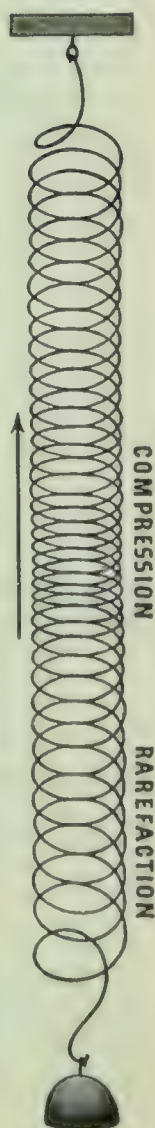

Fig. 430
*Experiment 95. HOW DO SOUND WAVES MOVE?* Get the spring out of a window-shade roller and fasten one end of it to a support (Figure 430). Fasten a weight to the other end of the spring. Near the lower end press together several coils of the spring; then let go of them quickly. Watch what happens along the entire spring. Repeat the experiment several times. Try to explain what happens.
The places where the air molecules are pressed together are known as *condensations* or *compressions*, and the places where they are spread farther apart are called *rarefactions* (Figure 430). A complete sound wave is made up of one rarefaction and one condensation. Study Figure 431 to help you trace a series of sound waves from their source to your ears. In a sound wave the molecules of air move only a little way. They move back and forth for a tiny distance along the line in which the sound waves are travelling. In liquids and in solids, sound waves travel in much the same way as in air. But in these substances the molecules are not so free to move as they are in air; therefore they do not move back and forth as far as the molecules of air do while a sound wave is passing through air.